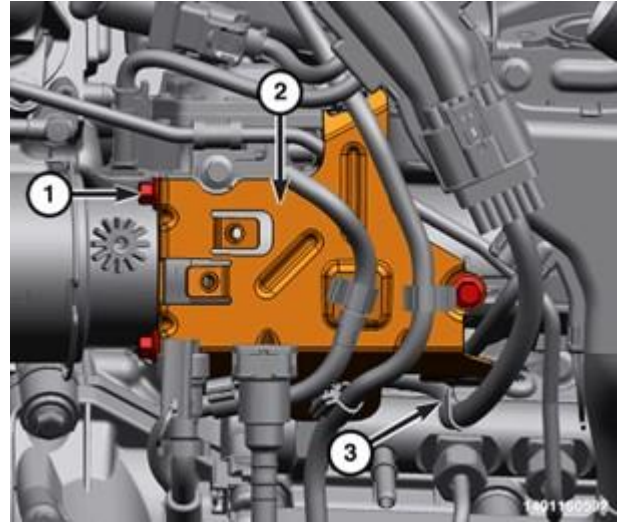

Figure 160 – Return Hose Retainers
- 25. Detach the wire harness retainer (3) (Figure 160).
- 26. Remove the bolts (1) fuel line support bracket (2) (Figure 160).
54. Install the bolts (1) to the fuel line support bracket (2) and tighten to 11 N·m (8 Ft. Lbs.) (Figure 160).
55. Attach the wire harness retainer (3) (Figure 160).